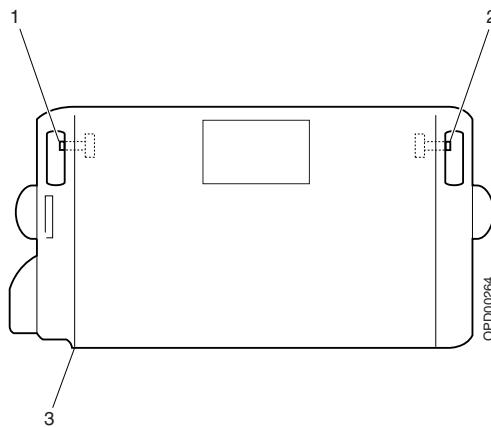

Fig. 4 Measuring points on the biopsy unit
2. Perform step 1. to 25. of a stereo examination on the stereo calibration phantom (Fig. 4, Page 5 - 4), see Performing stereo examination in Supplement to the Instructions for Use MAMMOMAT 3000 - Opdima®.
1. Measure the resistance between the ground connection of the stand and measuring points on the CCD camera according to Fig. 4. Use a sharp-pointed tool to penetrate the finishing paint. Fill in your values in the test protocol for protective earth measurement (see Appendix 2).